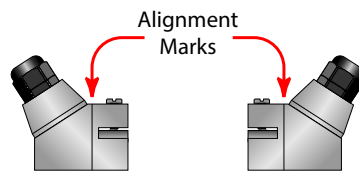

Figure 7: Transducer alignment marks
2. Orient and space the transducers on the pipe to provide optimum reliability and performance. Measure the spacing between the transducers between the two alignment marks on the sides of the transducers. These marks are approximately 0.75 inches (19 mm) back from the nose of the RZ, NZ, YZ and HZ transducers, and 1.2 inches (30 mm) back from the nose of the LZ, YZ transducers. See Figure 7.